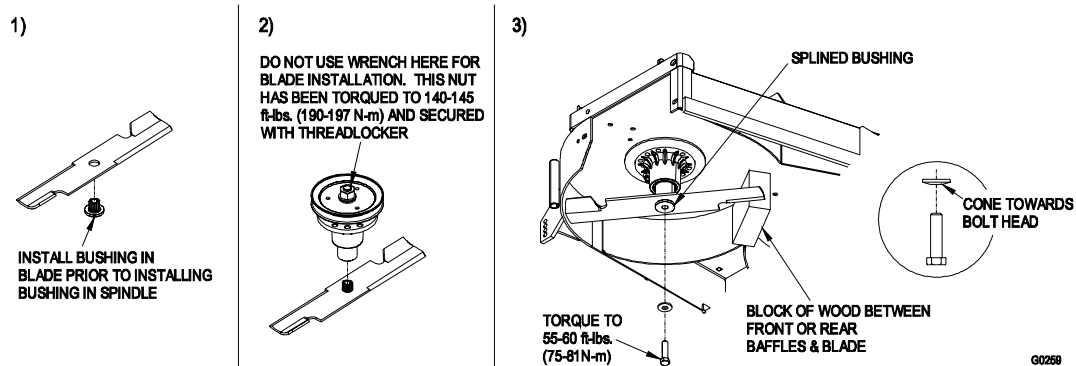

FIGURE 9
- d) Reinstall the blades (if they were removed) in the following order (See Figure 9):